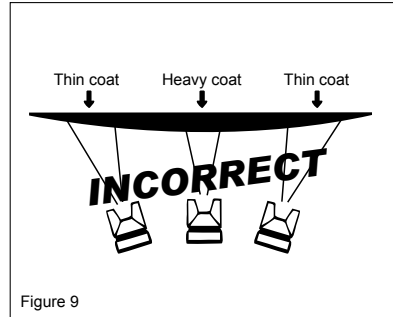

Figure 9
**NOTE:** Always keep the spray gun moving parallel to the surface being covered while spraying. Stopping gun movement in mid-stroke will cause a build-up of paint and will result in runs. Do not fan the gun from side to side while painting, as this will cause a build-up of paint in the center of stroke and an insufficient coating at each end. (See Figure 9)